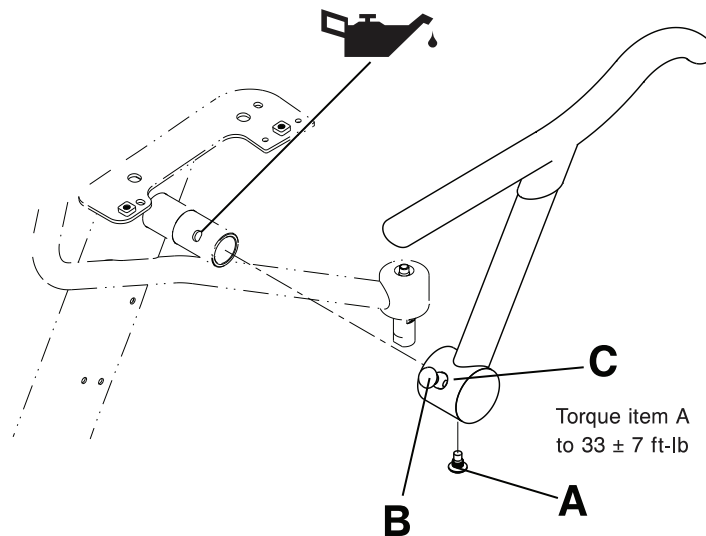

Figure 1-24: Flip-up armrest replacement
2. Using a 5/16" hex wrench, remove the hard stop pin (A) from the bottom of the flip-up armrest (Figure 1-24 on page 1-40). Discard the pin.
3. Using one hand, pull up on the armrest release pin (B) and use your other hand to pull outward on the flip-up armrest (C) to remove the armrest (Figure 1-24 on page 1-40).
4. Grease the supplied armrest pivot with Syntec grease (3000-200-7 19) (Figure 1-24 on page 1-40).